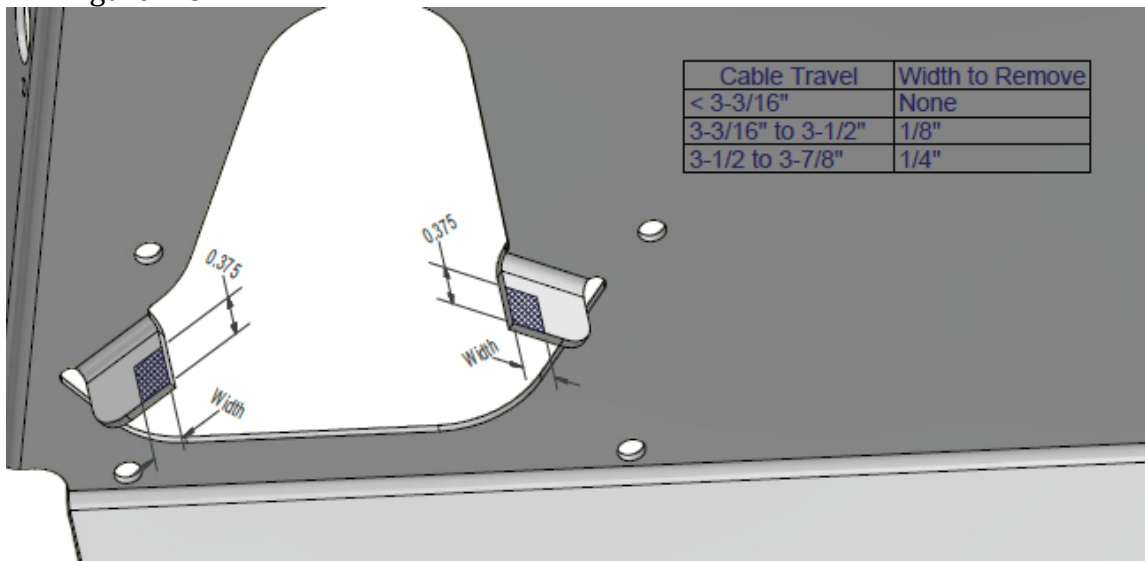

Figure 2-3
- 1.5. Remove material from the servo stop portions of the PA-28 roll bracket assembly (P/N 7200-102) according to the aileron cable travel as shown in Figure 2-3.